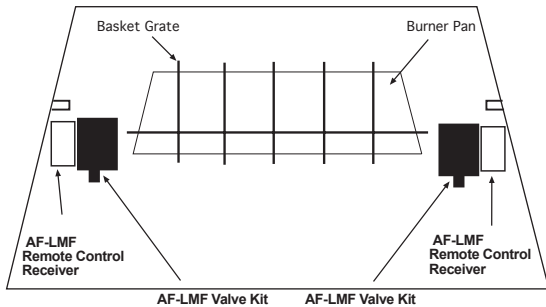

Fig. 9 Shows placement of remote receiver for protection of radiant heat.
1. The remote control receiver is to be placed next to the valve kit, away from the fire. See Fig 9.